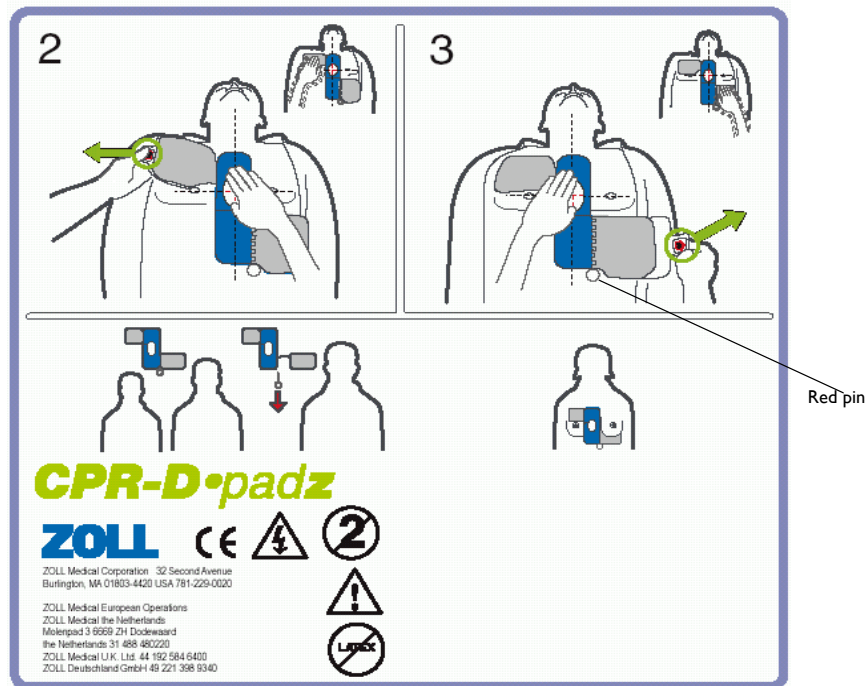

Figure 5: Placement of CPR-D padz
1. Tear open the electrode package and unfold the electrodes. Orient according to graphics (see Figure 5).
NOTE If the patient is large or there is a need to place the electrode under a breast, you may need to remove the red-centered "pin" (see Figure 5) to extend the pad. Place the pad slightly to the left and below the patient's left breast.